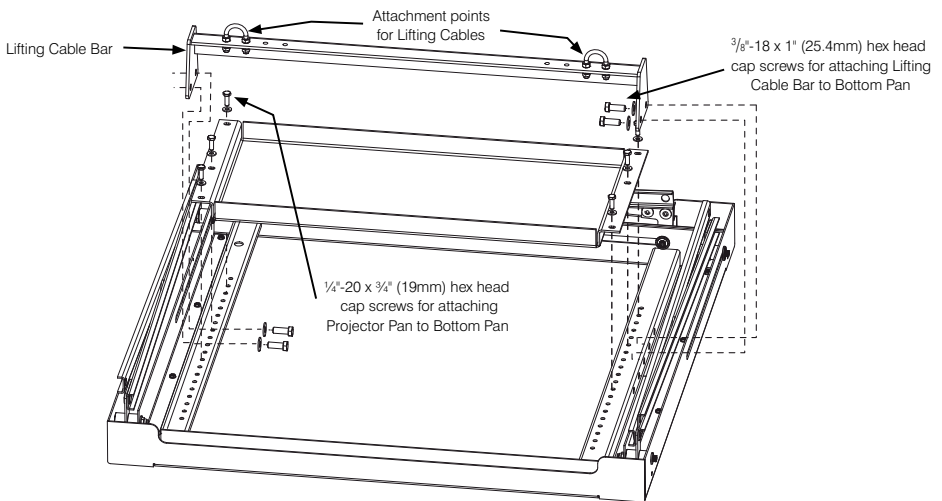

Figure 2
3. Remove the Lifting Cable Bar (see Fig. 2).
4. Remove screws holding Projector Pan on Bottom Pan (see Fig. 2).
2. Remove screws holding Lifting Cable Bar to the Bottom Pan (see Fig. 2).
3. Move Lifting Cable Bar forward or back (see Fig. 2).
3. Remove Lifting Cable Bar from Bottom Pan (see Fig. 2).
4. Remove bolts holding Projector Pan to Bottom Pan (see Fig. 2).